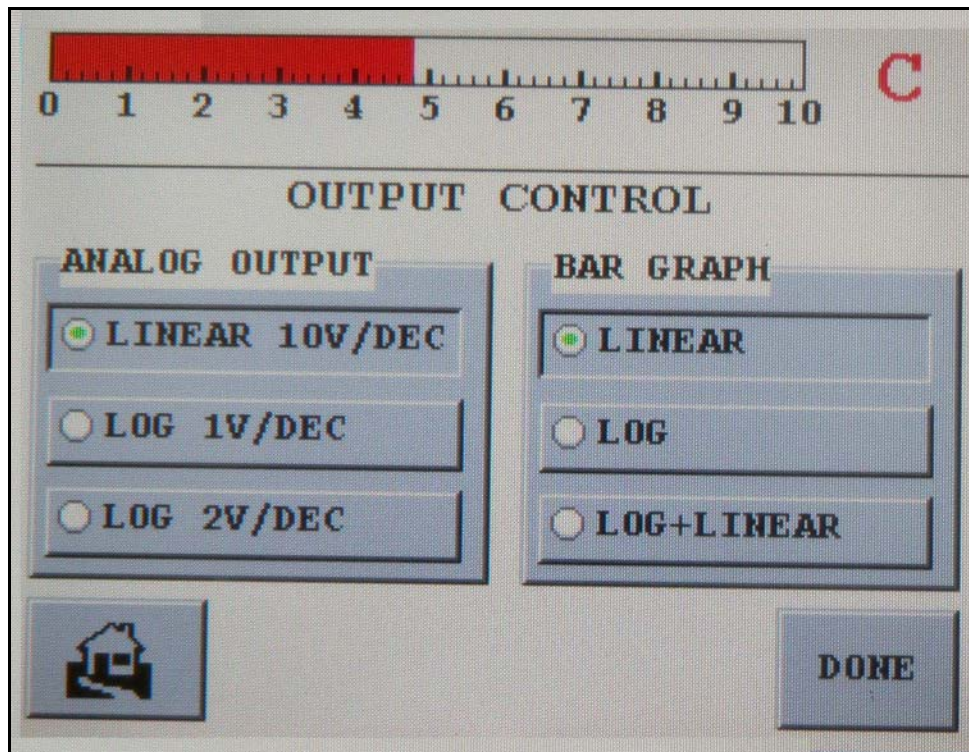

Figure 2-19 Output Control Screen
- Press **Output Control** and the Output Control screen appears (Figure 2-19). Use this screen to select the desired leak rate output, and Bar Graph display mode.